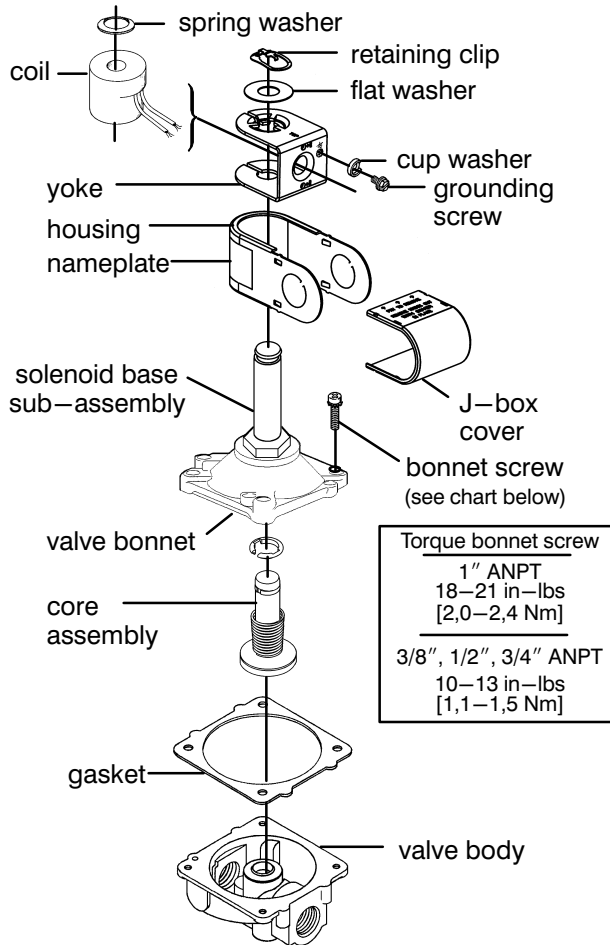

Figure 2. Exploded view, typical K3A valve.
Coil Replacement (Refer to Figure 2)
Valve Disassembly (Refer to Figure 2)
1. Disassemble valve in an orderly fashion. Paying careful attention to exploded view for identification and placement of parts. See Figure 2.